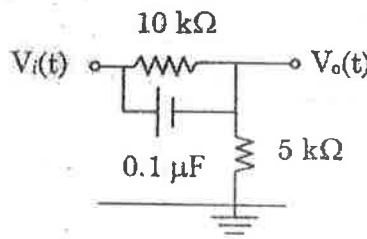

Fig. 6
- (b) Derive the transfer function of the compensating network and the type of compensation given in figure 6 and draw the Bode plot.